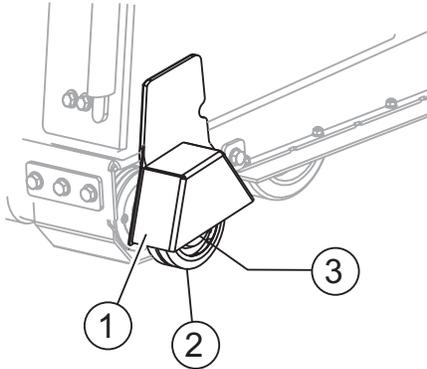

Figure 20. The Flange Guard Installed
1. Slide the Flange Guard onto the Guard Mounting Tab on the frame. (See Figure 20.)